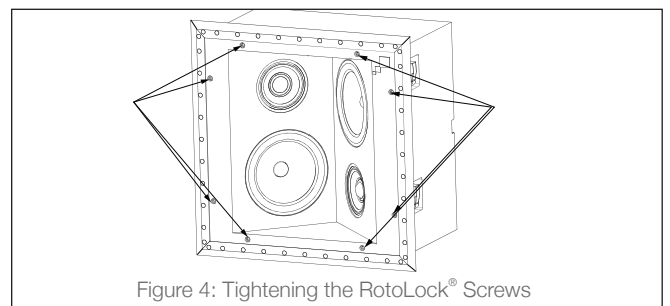

Figure 4: Tightening the RotoLock® Screws
7. Tighten the screws on the front of the speaker baffle. The RotoLock® toggle feet will automatically rotate into position and begin clamping the speaker (see Figure 4). When you notice resistance on the screws the speaker has been clamped successfully.